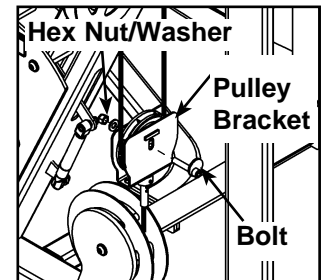

Figure 2
D. Locate the pulley bracket that is located near the cam. See Figure 2.